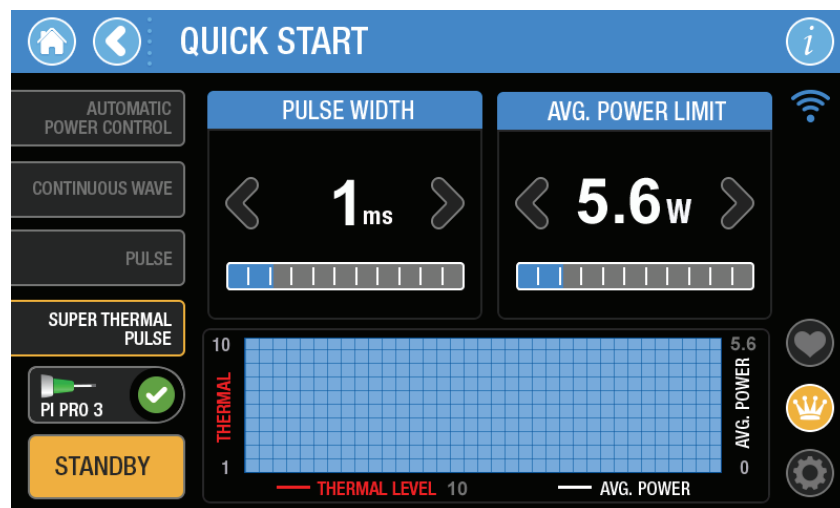

Figure 8.9
- Super Thermal Pulse (STP™) (Figure 8.9)